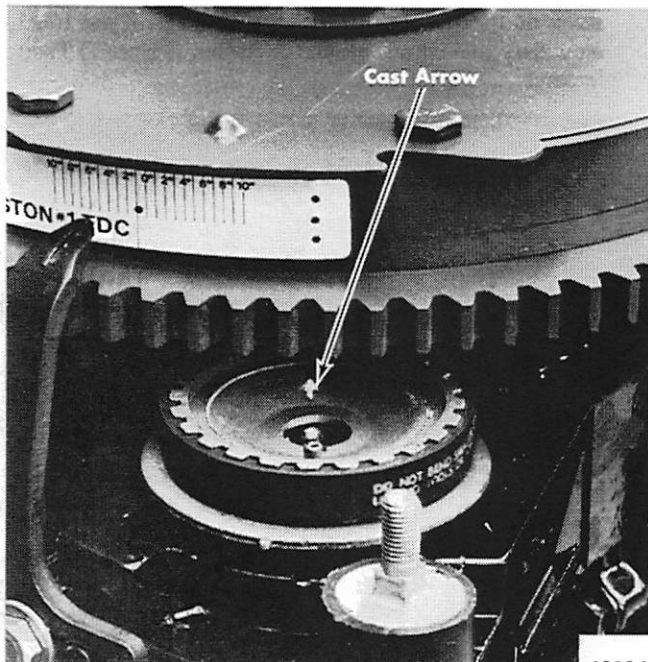

Figure 1. Cast Arrow Aligned with Three Dots
1. Rotate flywheel until "alignment mark" (three dots on side surface of flywheel) is aligned with cast arrow on distributor pulley. (Figure 1)